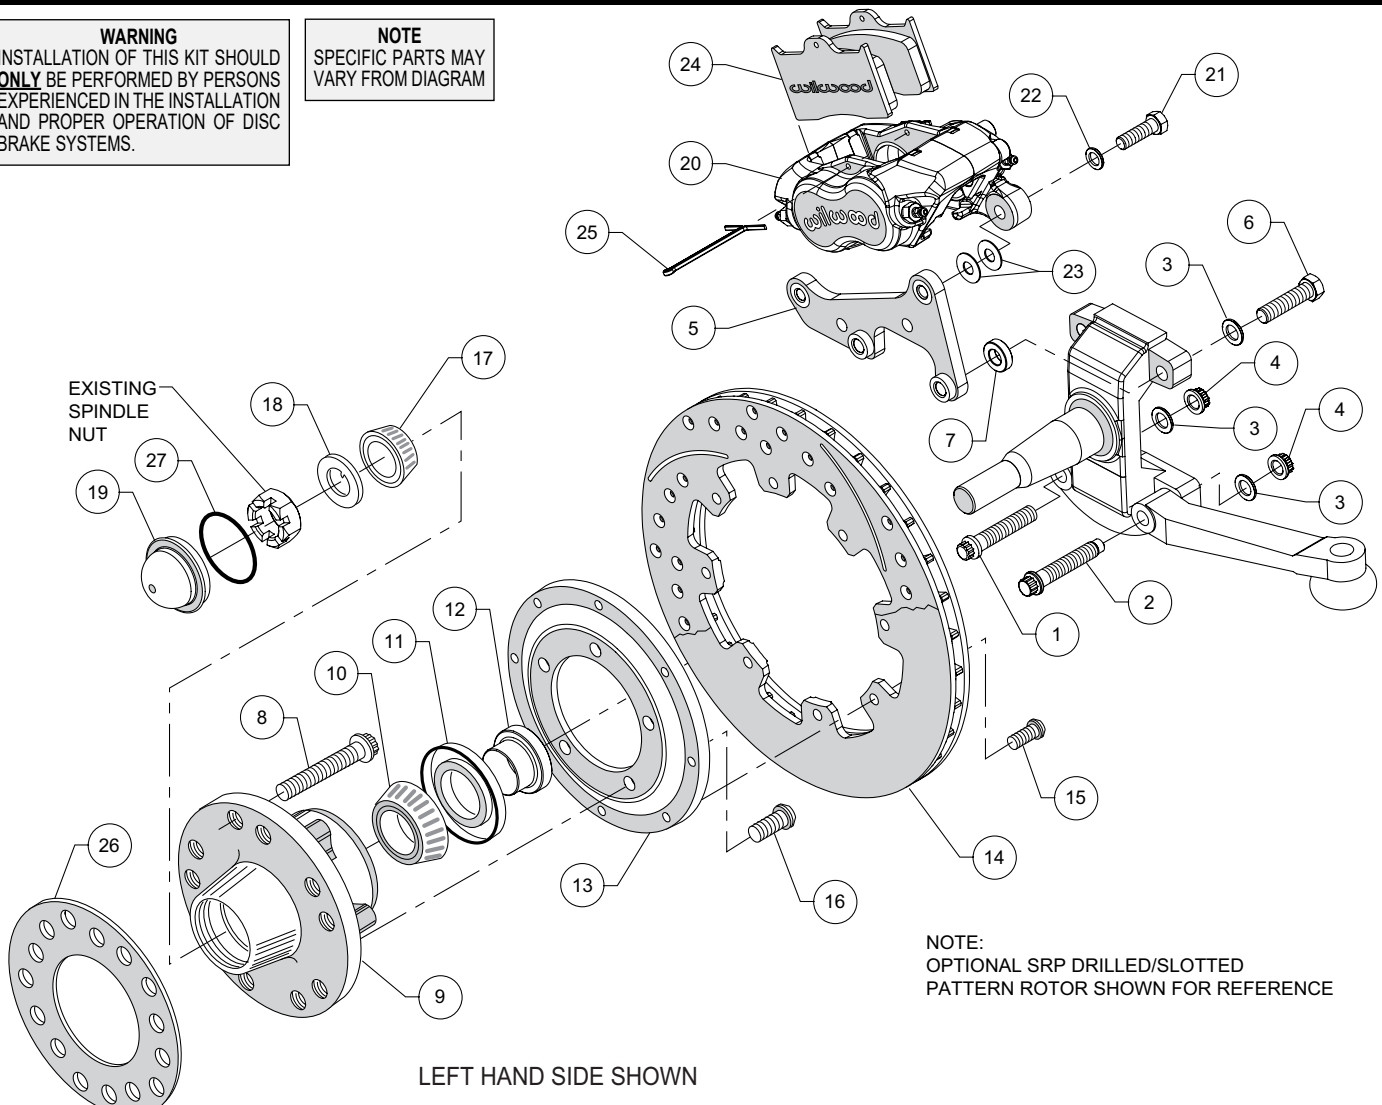

Figure 1. Typical Installation Configuration
**NOTE:** Numbers in parenthesis refer to the parts list and Figure 1 on the preceding pages.
- One at a time, remove the two lower OEM bolts that secure the steering arm from the back side of the spindle. Replace with new bolt (1), in the forward most hole, and bolt (2) in the rear hole, Photo 1. **NOTE:** The longer bolt with the end of the threads turned down is the steering stop. The new bolts are installed in the opposite direction as the original bolts, from the outside, Photo 2. Secure bolts using washer (3) and nut (4) as shown in Figure 1. Torque nuts to 47 ft-lb.
- Orient the caliper mount bracket (5) as shown in Figure 1 and Photo 2, and install using bolts (6) and washers (3). Place spacers (7) between spindle and bracket. Ensure that the flanged heads of the clinch nuts in the bracket are facing outboard, Photo 2. Temporarily tighten the mounting bolts. **NOTE:** The bracket must fit squarely against the mount bosses on the upright. Inspect for interference from casting irregularities, machining ridges, burrs, etc. Remove bolts one at a time, apply red *Loctite*® 271 to the threads and torque to 60 ft-lb.
- Install wheel studs (8) into the hub (9), Photo 3. Torque to 77 ft-lb.
- Pack the large inner bearing cone (10) with high temperature disc brake bearing grease (available from your local auto parts store) and install into the backside of the hub (9), Photo 4.
- Install the grease seal (11) by pressing into the backside of the hub (9), flush with the end of the hub, Photo 4.
- Orient the rotor (14) and the rotor adapter (13) as shown in Figure 1 and Photo 5. Attach the rotor to the adapter using bolts (15). Apply red *Loctite*® 271 to the bolt threads and torque to 25 ft-lb using a criss-cross pattern.
- Mount the adapter/rotor assembly (13/14) to the hub (9) using bolts (16), as shown in Figure 1 and Photo 6. Apply red *Loctite*® 271 to the bolt threads and torque to 45 ft-lb using a criss-cross pattern.
- Slide the bearing spacer (12) onto the spindle. Ensure the larger diameter faces inward, Photo 7.
- Pack the small outer bearing cone (17) with high temperature disc brake bearing grease and install into hub (9). Slide the hub/rotor assembly onto the spindle. Secure using spindle washer (18) and OEM nut, Photo 8. **NOTE:** *The O.D. of the existing OEM spindle washer may be larger than the I.D. of the dust cap not allowing it to seat against the hub face. Therefore, use the spindle washer (18) supplied with the kit instead of the OEM washer.* Adjust bearings by tightening the wheel bearing nut to 60 **in-lbs.** while turning the hub/rotor assembly. Back off the adjusting nut one slot and install a new cotter pin (not supplied). **The resulting adjustment should be zero (no pre-load to 0.003 inch end play).**
- Install the o-ring (27) onto the dust cap (19). Press the dust cap into the hub (9) until o-ring is lightly compressed, Photo 9. **NOTE:** *O-ring is a spacer to ensure spindle pin does not make contact with cap.*
- NOTE:** *Please reference the caution statement at the beginning of the assembly instructions.* Mount the caliper (20) onto the caliper mounting bracket (5) using bolts (21) and washers (22), as shown in Figure 1. Initially place two .035" thick shims (23) on each bolt between the caliper and the bracket, Photo 10. Temporarily tighten the mounting bolts and view the rotor (14) through the top opening of the caliper. The rotor should be centered in the caliper, Photo 11. If not, adjust by adding or subtracting shims between the bracket and the caliper. Always use the same amount of shims on each of the two mounting bolts. **NOTE:** *The end of each bolt must be flush with or slightly protruding from the head of the clinch nut, as shown in Figure 3.* If necessary place spare shims between washer (22) and caliper mounting ear to achieve the proper clinch nut engagement. Once the caliper alignment and clinch nut engagement are correct, remove the bolts one at a time, apply red *Loctite*® 271 to bolt threads, and torque to 40 ft-lb.
- Install the disc brake pads (24) into the caliper, with the friction material facing the rotor (14), and secure in place using cotter pin (25), Photo 12.
- Install wheel spacer (26) as shown in Figure 1 and Photo 13. Temporarily install wheel and torque lug nuts to manufacturer's specification. Ensure that the wheel rotates freely without any interference. **NOTE:** *Wheel spacer (26) MUST be used if any wheel contact surfaces overhang the outside diameter of the hub face. See warning on page 3.*